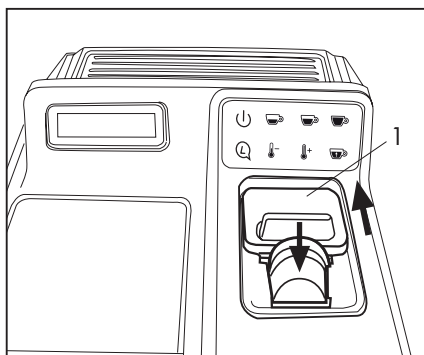

Fig. 10
- Open the door (1) and insert a capsule in the space provided. (Fig. 10)